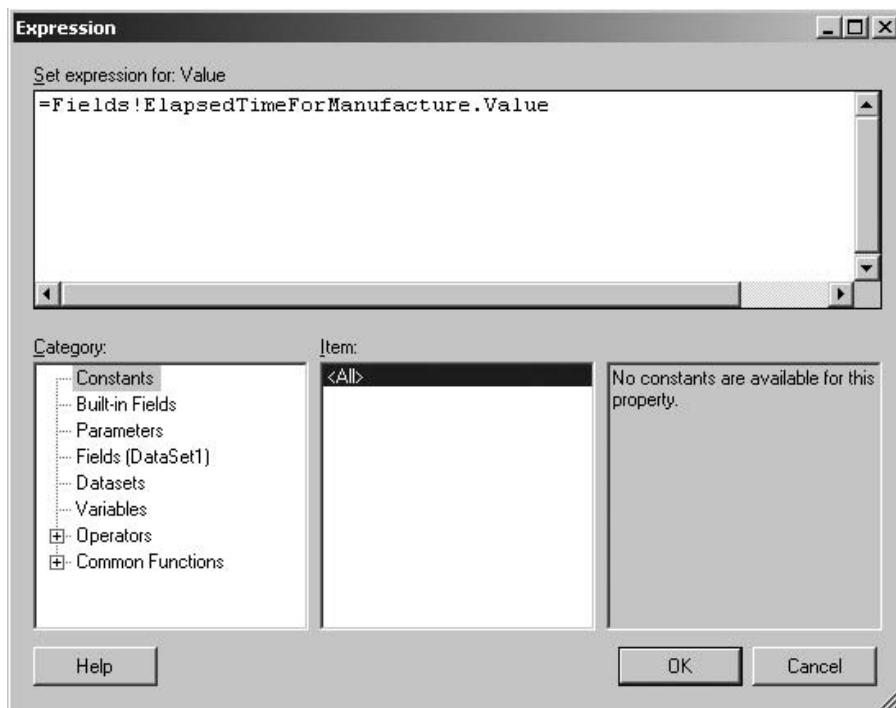

Figure 16-14 The database field expression for a detail cell
47. Right-click the detail cell in the Elapsed Time For Manufacture column. Select Expression from the Context menu. The Expression dialog box appears, as shown in Figure 16-14. The expression shown in the dialog box returns the value of the ElapsedTimeForManufacture field. Click Cancel to exit the Edit Expression dialog box. When you look at this cell in the tablix grid, you do not see the same expression. Instead, you see “[ElapsedTimeForManufacture]” in this cell. This is a placeholder for the expression.